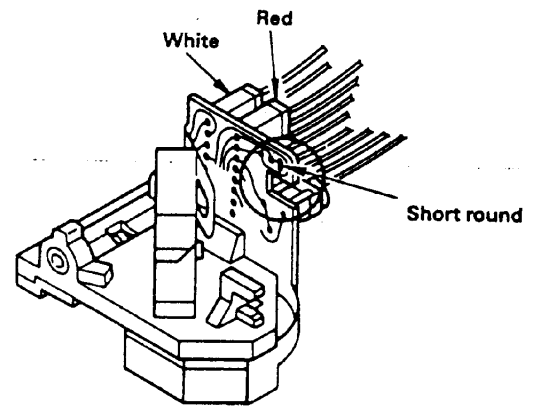

Figure 8
7. After you connect the wire connector, desolder and remove the shorting tab. (See Figure 8.)